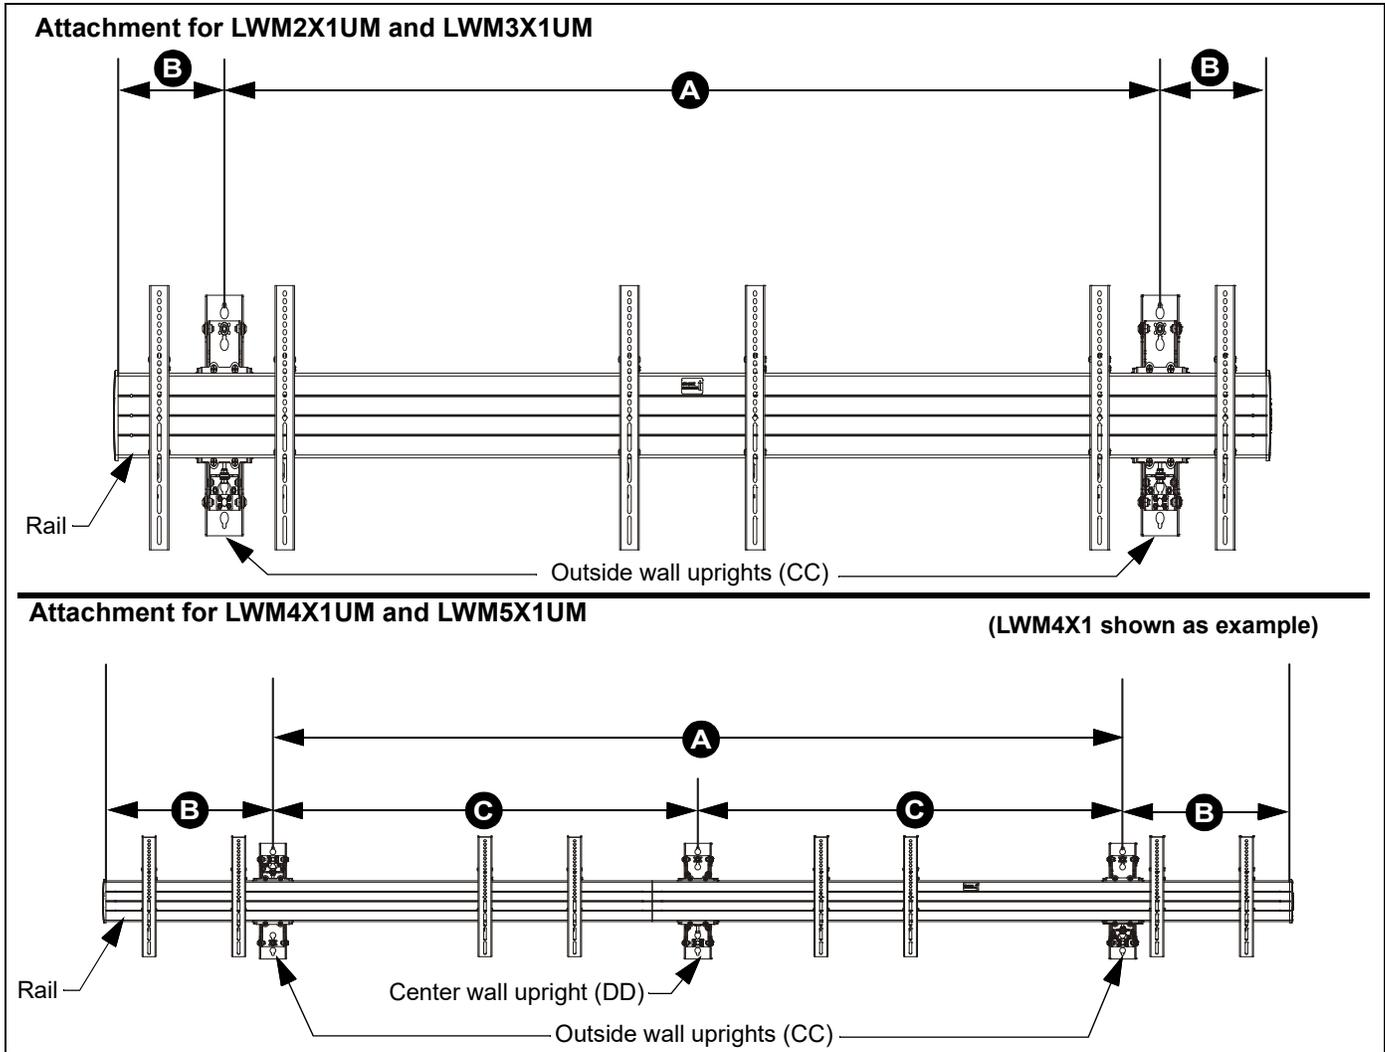
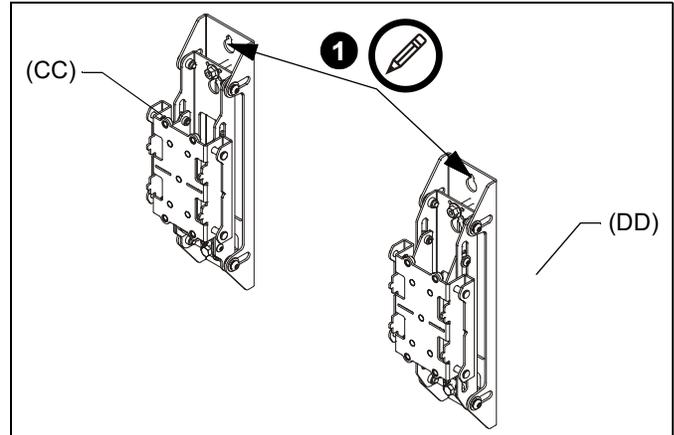

Figure 1
Figure 7
IMPORTANT ! : Reference **Wall Placement Information** section (See Figure 1) and Table 1.
- Use the outside wall upright (CC) or center wall upright (DD) as a model to mark upper and lower pilot hole placement for 2 outside wall uprights (and center wall upright for LWM4X1M or LWM5X1M models) following wall placement information in Figure 1 and Table 1. (See Figure 7)